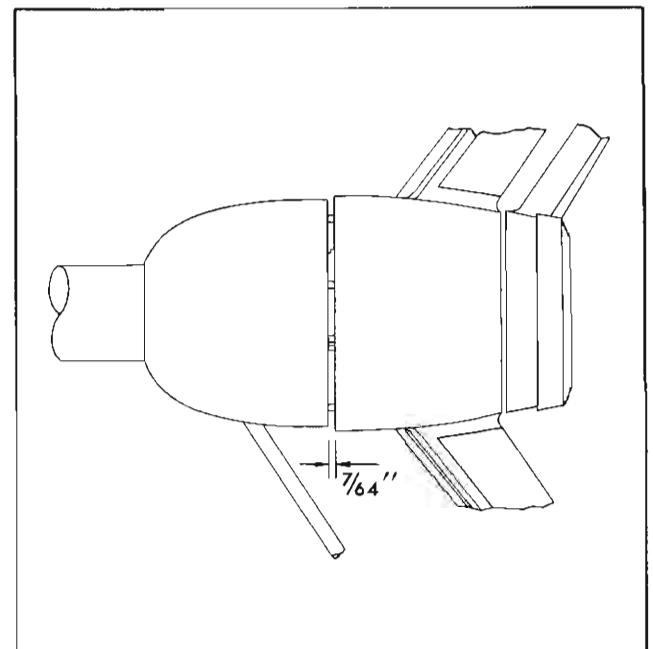

Fig. 11-55 Position For Housing
1. Install directional signal housing on steering column and position as shown in Fig. 11-55.